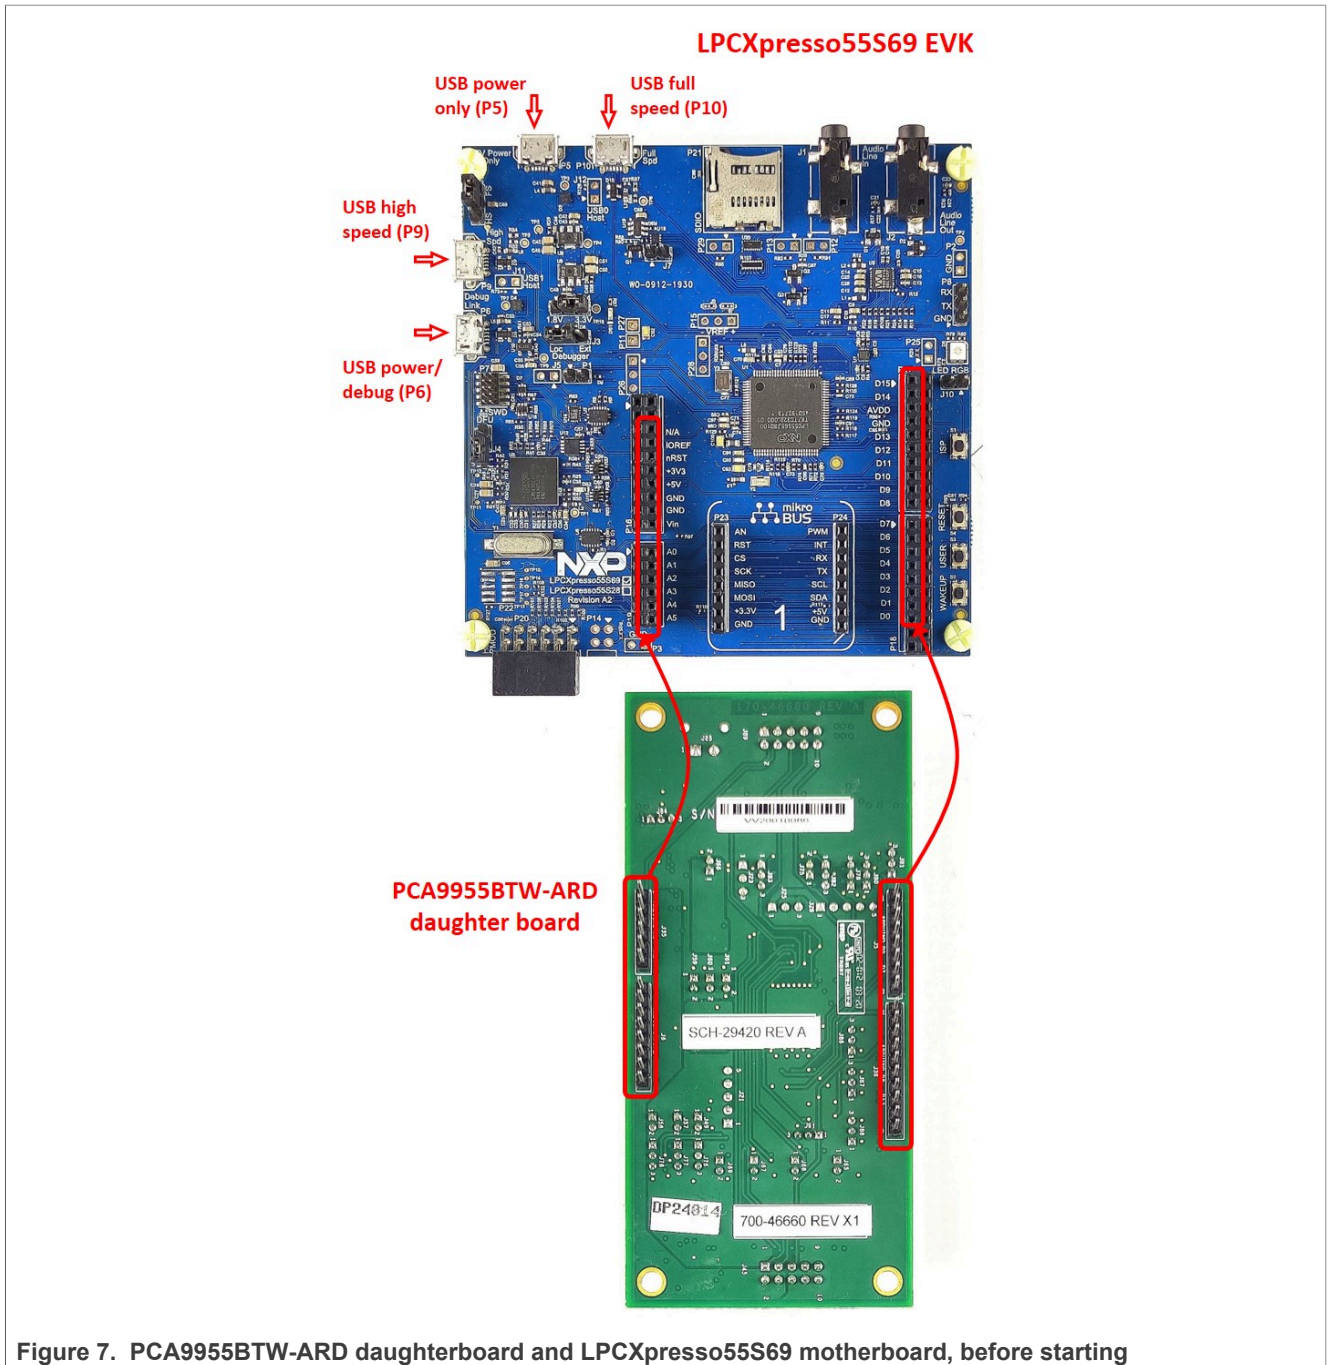

Figure 7. PCA9955BTW-ARD daughterboard and LPCXpresso55S69 motherboard, before starting
Figure 7 shows the required hardware for operation of the PCA9955BTW-ARD and LPCXpresso55S69 EVK board. This configuration consists of:
The following steps describe how to assemble, program, and operate the configuration shown in Figure 7.
1. Insert the PCA9955BTW-ARD daughterboard to P16 – P19 connectors located on LPCXpresso55S69 development board (see the marked pins of P16 – P19, Figure 7)